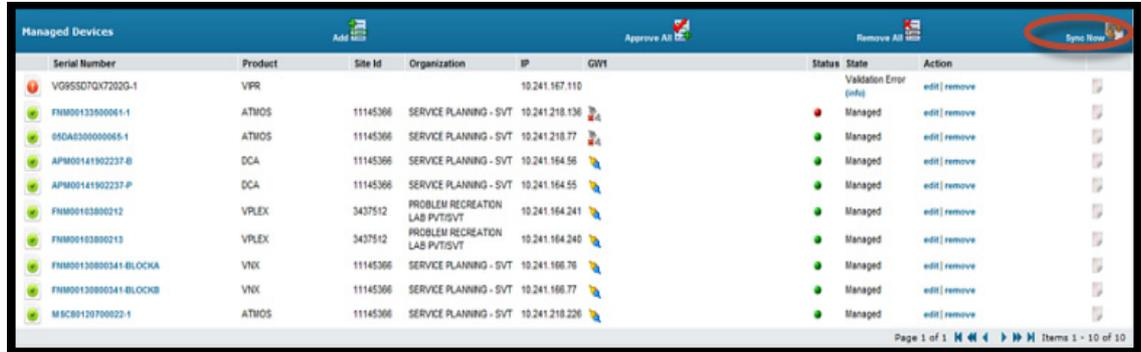

Figure 140 Selecting Sync Now
- When the migration process is complete, you may have to wait a brief period while the sync process occurs, or you can select the **Sync Now** button on SRS to force an immediate sync process to occur, as shown in Figure 140 on page 117.